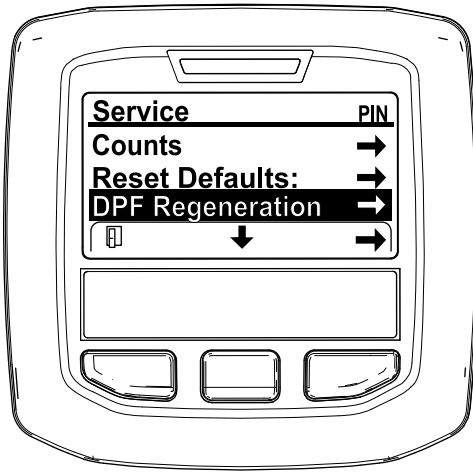

Figure 5
3. In the SERVICE MENU, press the middle button until the DPF REGENERATION options displays, and press the right button to select the DPF REGENERATION option (Figure 5).